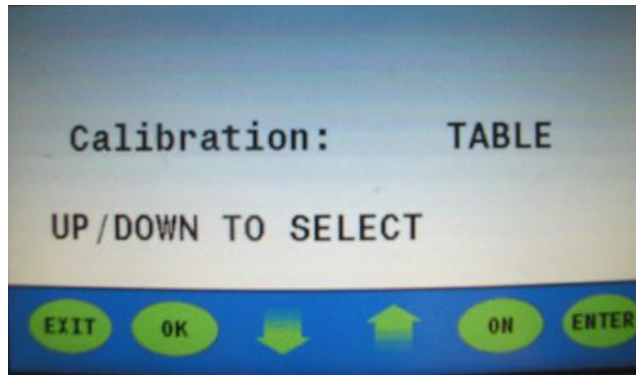

Figure 5
12. The display will read “Calibration: TABLE”. (**Figure 5**)